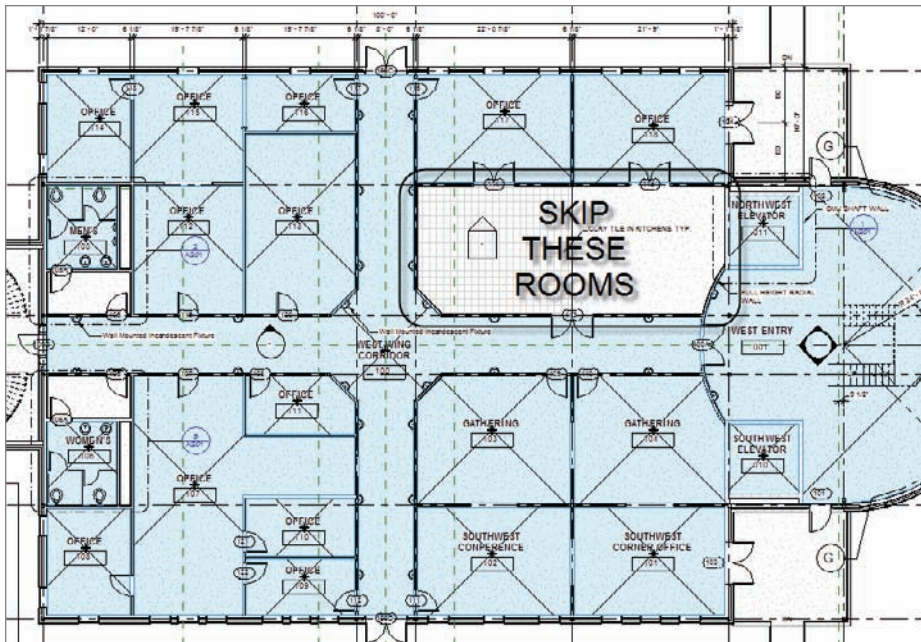

FIGURE 15.8 Adding rooms to the remainder of the spaces
6. Add rooms to the rest of the vacant areas. (Skip the Kitchen area and the room to the right of it, as shown in Figure 15.8).